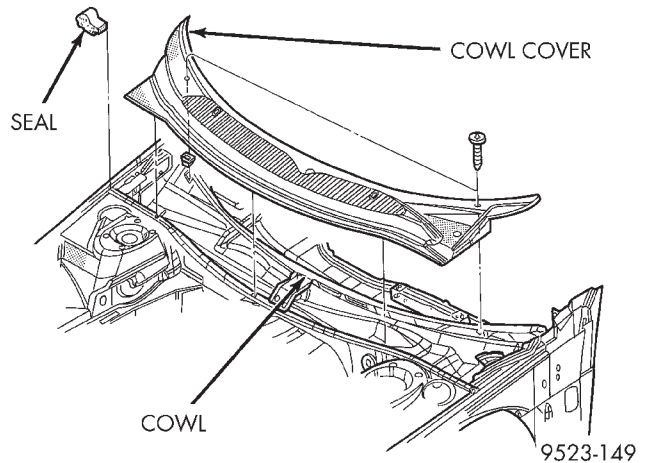

Fig. 8 Cowl Cover
- (1) Release hood latch and open hood.
- (2) Remove windshield wiper arms. Refer to Group 8K, Windshield Wipers and Washers.
- (3) Remove screws holding cowl cover to cowl (Fig. 8).
- (4) Remove clips holding cowl cover to cowl plenum under hood to cowl bulb seal.
- (5) Separate cowl cover from vehicle.